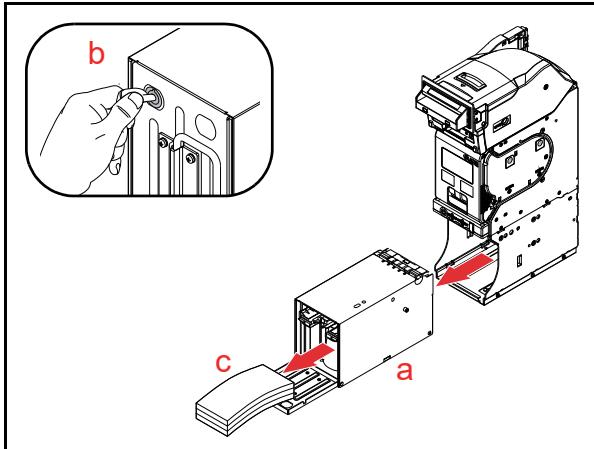

Figure 2-13 Collecting Banknotes 2
2. Remove the Cash Box (Figure 2-13 a).
3. Use the appropriate User-supplied Key(s) to unlock the Cash Box (Figure 2-13 b).
4. Open the Cash Box Door and remove the collected Banknotes (Figure 2-13 c).